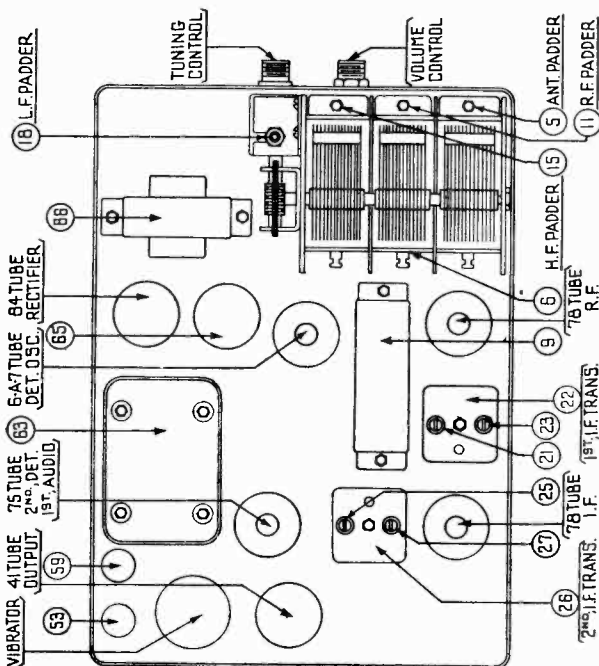

FIGURE 4
Adjust the secondary screw padder (22) on the second I. F. transformer for maximum reading on the output meter. Then adjust the primary screw padder (23) for maximum reading. (See Figure 4 for location of padders).
Connect the generator lead to the grid cap of the 6A7 tube in series with a .1 mfd. condenser (without removing the grid cap). Adjust the secondary screw padder (23) on the first I. F. transformer for maximum reading on the output meter. Then adjust the primary screw padder (24) for maximum reading. (See Figure 4 for location of padders).
Both the primary and the secondary padders are placed side by side in the top of the transformer shield can. The adjusting screws are accessible thru the holes in the top of the shield. (See Figure 4).